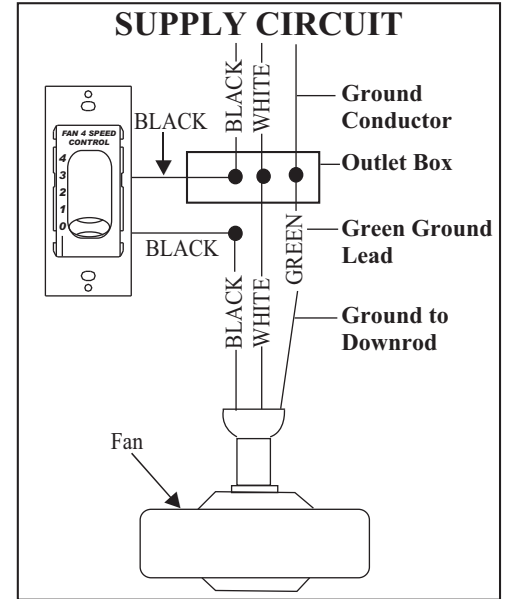

Figure 10
3. Make wire connections (Figure 10) and secure with wire nuts supplied.